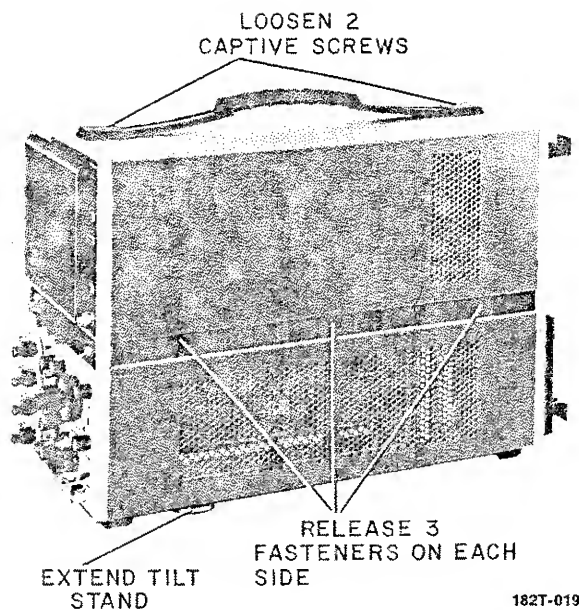

Figure 8-2. Cover Removal
- b. Release the three-quarter-turn fasteners located on each side of the instrument. The cover retainers will be completely free. Figure 8-2 shows the location of the fasteners.